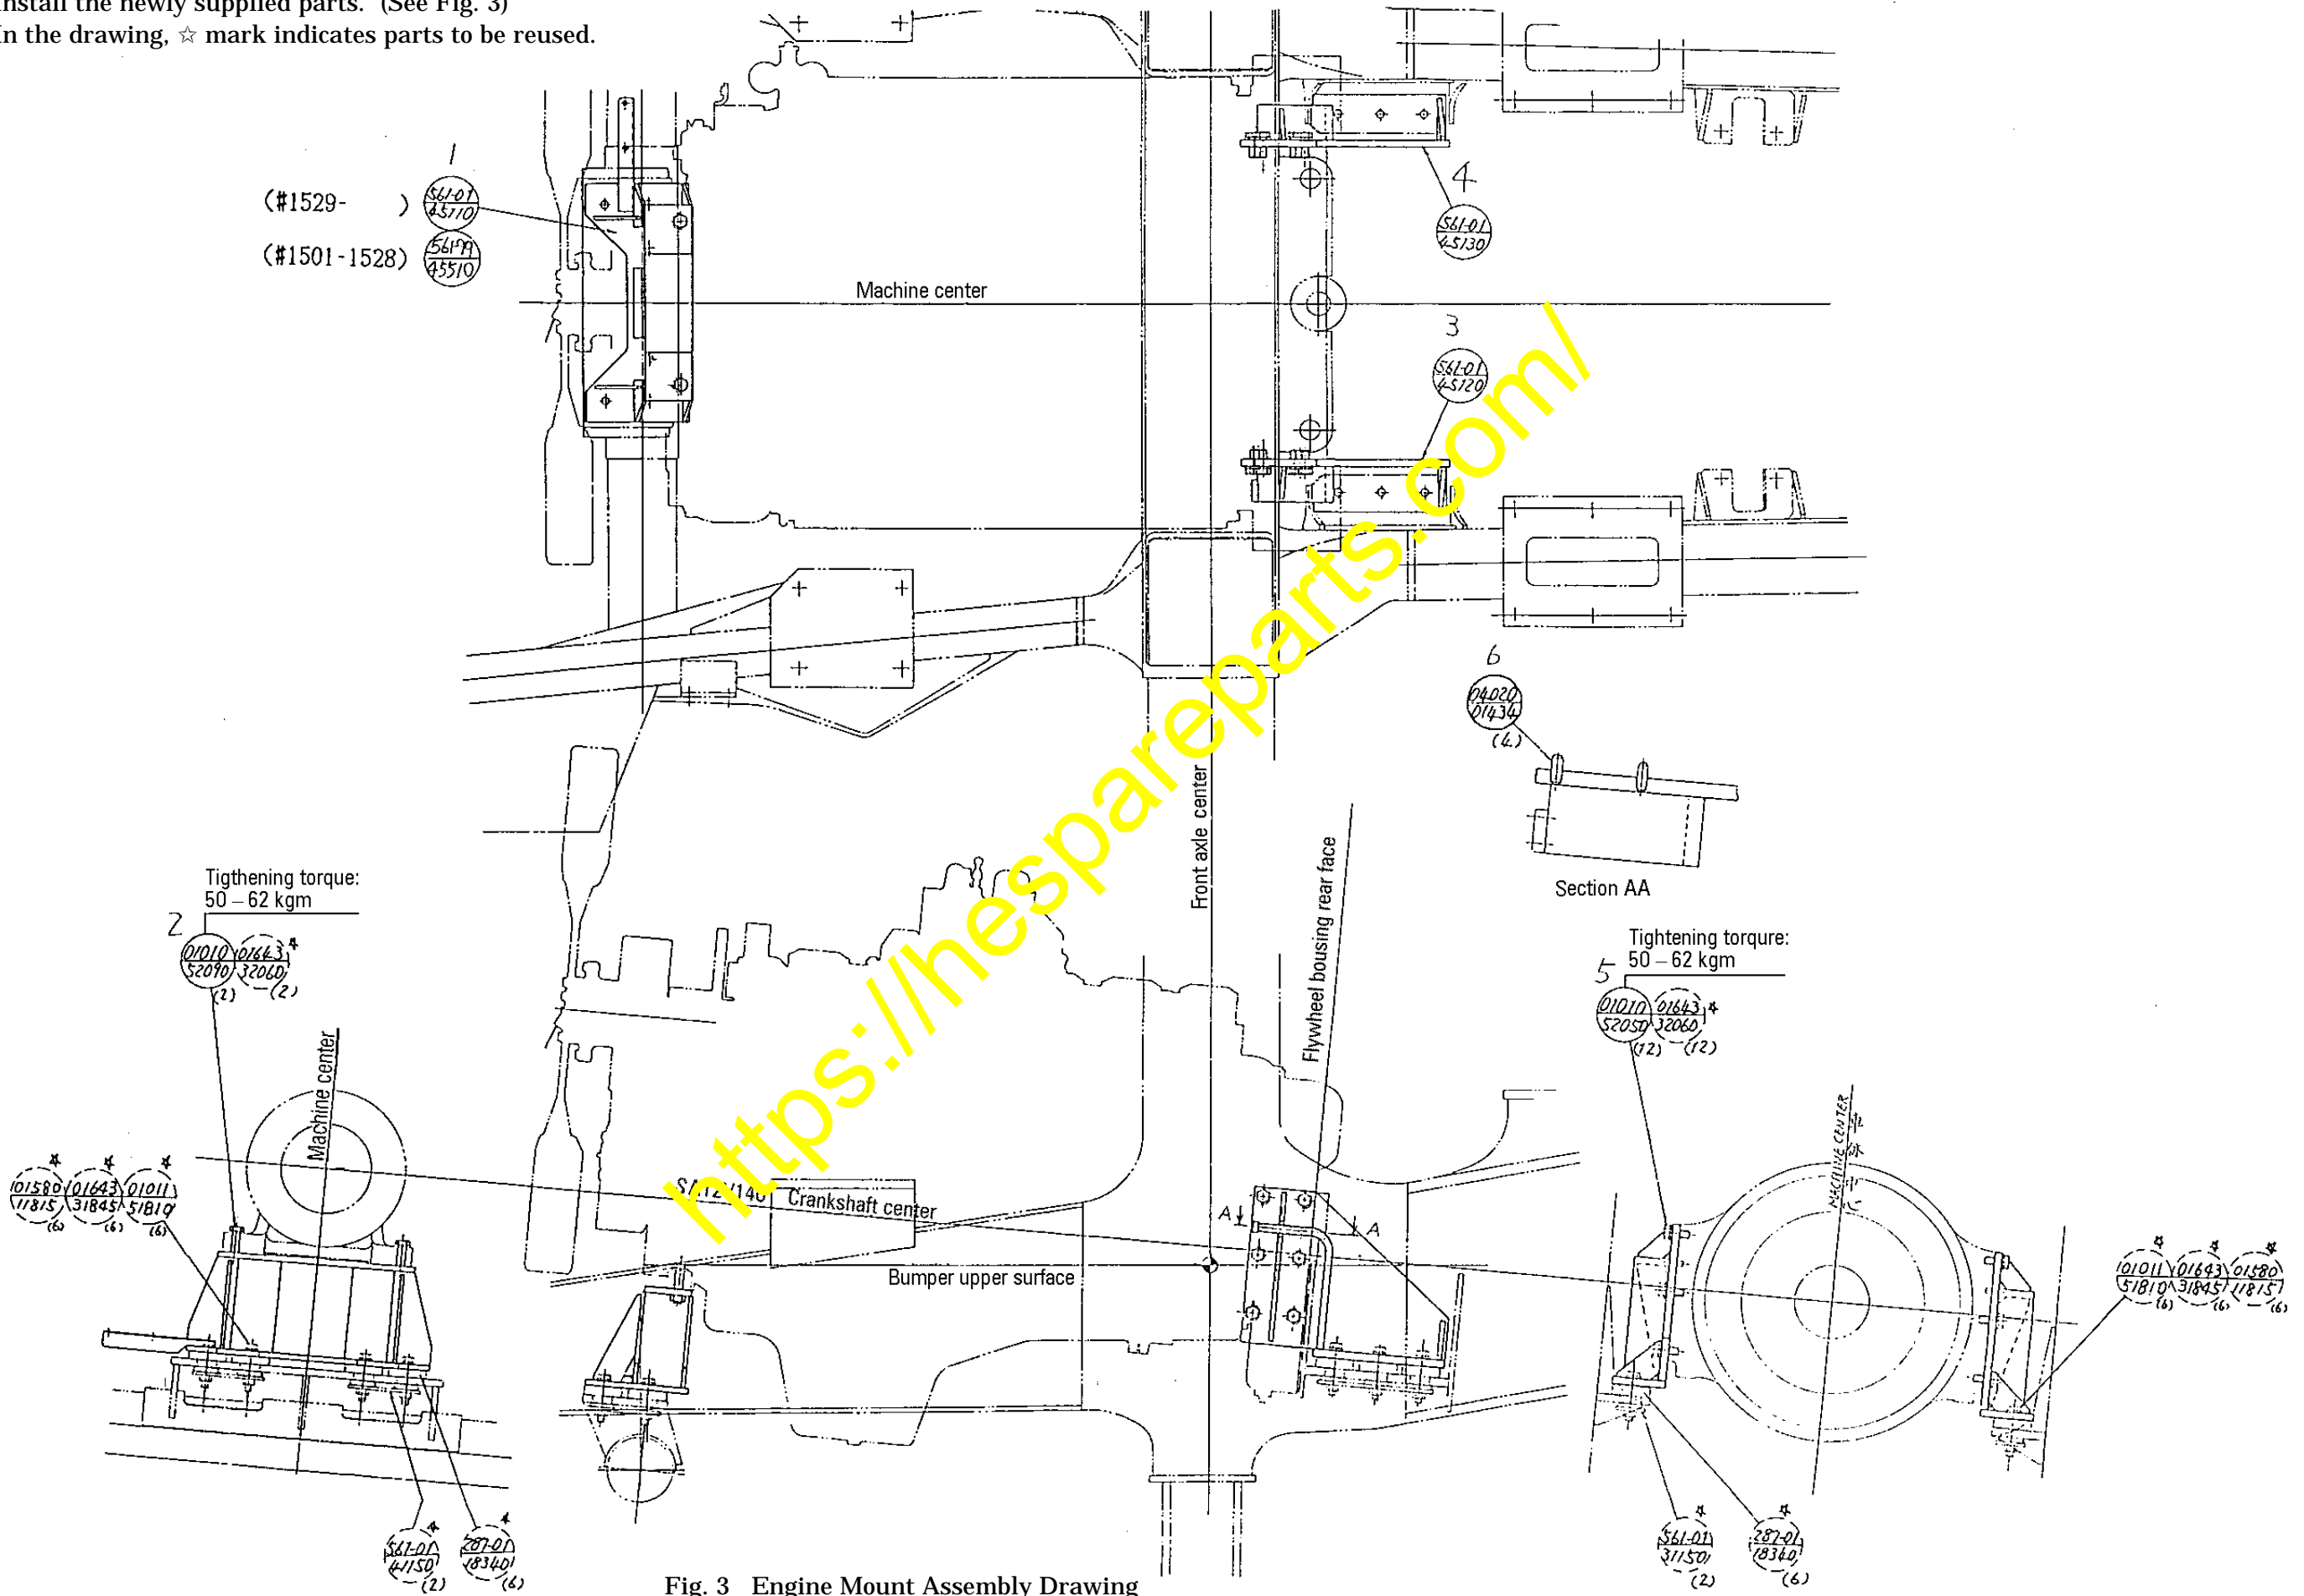

Fig. 3 Engine Mount Assembly Drawing
- (2) Install the newly supplied parts. (See Fig. 3)